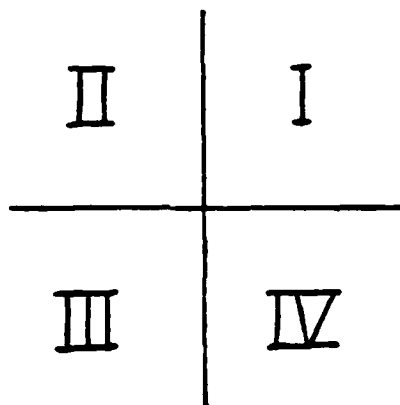

Figure 4. Quadrant Numbering.
3.4.2. Canonical Orientation and Quadrant Numbers In addition to the corner layer and type explained above, it is sometimes desirable to specify an additional pattern of layers which must occur at a corner. To express this additional pattern information, and also to express the location of the constraints in the RHS of the rule, horizontal and vertical lines are drawn through the corner under consideration, dividing space into four quadrants. Following standard convention, the quadrants are numbered, by designating the upper right quadrant the first quadrant and counting counter clockwise from there (see Figure 4).